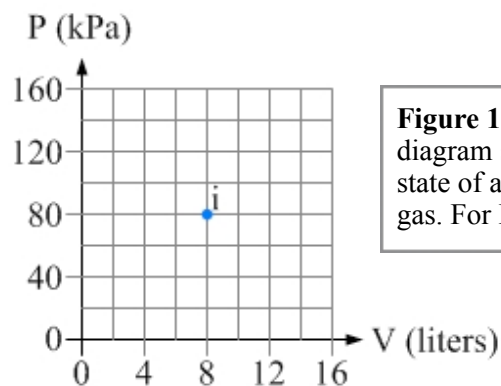

Figure 15.33: The P-V diagram shows the initial state of a system of ideal gas. For Exercises 51 – 53.
51. A system of monatomic ideal gas is initially in state i , as shown in Figure 15.33. Compare the following situations, in which the system starts in the initial state i in each case. In case 1, the system's volume is increased by 4.0 L in a constant-pressure process. In case 2, the volume is decreased by 4.0 L in a constant-pressure process. (a) Sketch these two cases on a P-V diagram. (b) In which case is the magnitude of the work done by the gas larger? Explain your answer. (c) Calculate the work done by the gas in case 2.